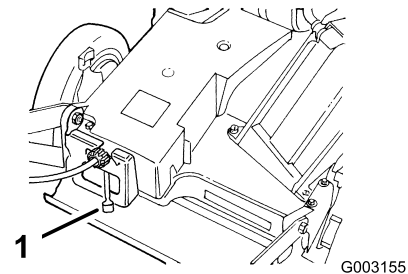

Figure 13
4. Move the ground speed control to the Neutral (N) position (Figure 13).
The machine has 3 ground speeds. 1 is slow, 2 is medium, and 3 is fast. The ground speed control is located at the rear of the belt cover (Figure 13).